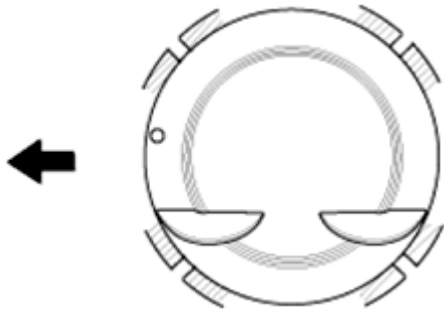

Fig. 30: Installing Piston Rings
3. Position the piston rings so that the ring ends are as shown in **Fig. 30**.